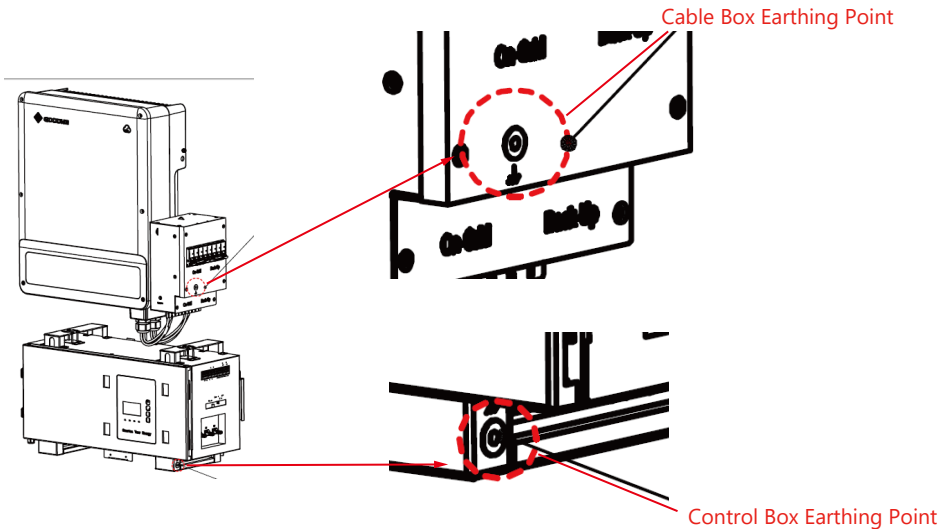

Figure 34 Earthing Points
Step 15 Figure 34 shows the earthing points on the HV50056 and cable box. Please connect them to the grounding copper bar of the customer.